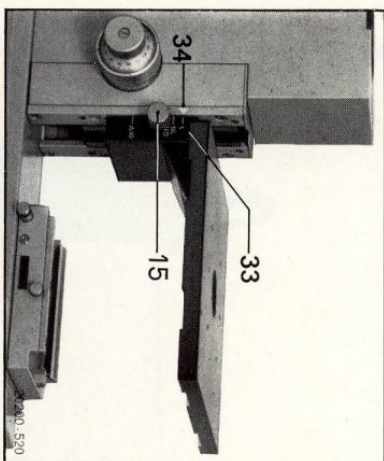

Fig. 2 Inserting the object stage
Release clamping screw 2.15 (Fig. 2, item 15), insert the object stage into the changing guide and lower it until the relevant letter marking 2.33 faces index line 2.34. Fix the stage with clamping screw 2.15.